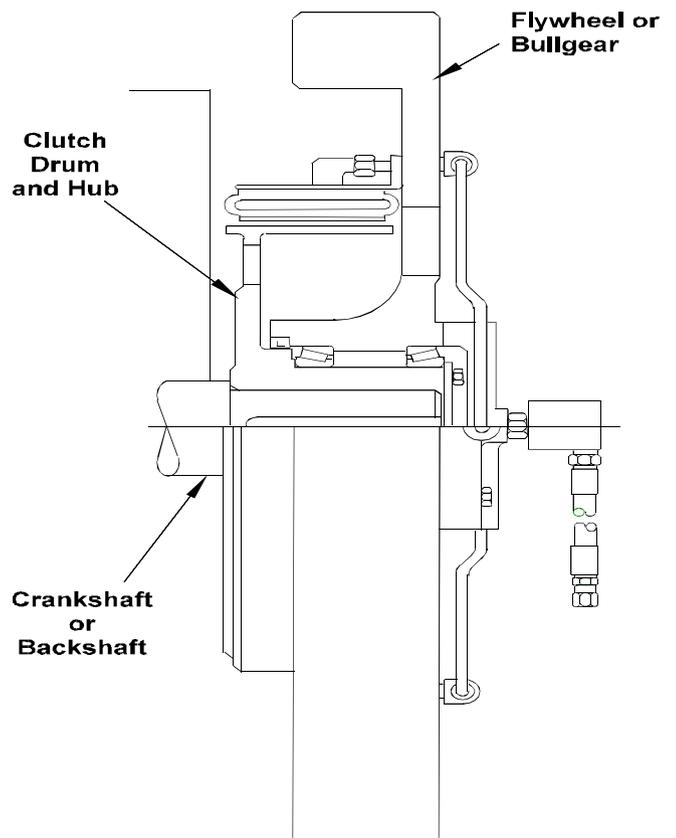

Fig. 7
2.1.6 Figure 7 illustrates a CB clutch mounting for punch press applications. The drum and drum hub are attached to the crankshaft or backshaft and the element is attached to a bearing-mounted flywheel or bullgear. CB clutches on punch presses are typically used in combination with Airflex type CTE or CS brakes.